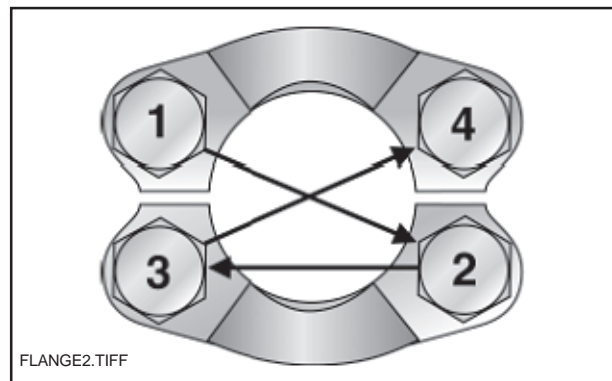

Fig. T9 - Flange Bolt Tightening Sequence
6. Torque bolts in diagonal sequence (see Fig. T9) in small increments to the appropriate torque level listed in Table T6 or Table T7 on this page.